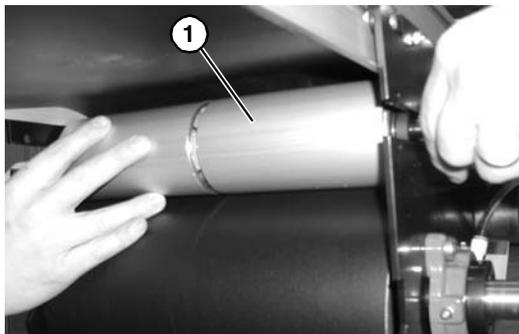

Figure 27
10. Slide out tensioning roller (Figure 27, item 1).